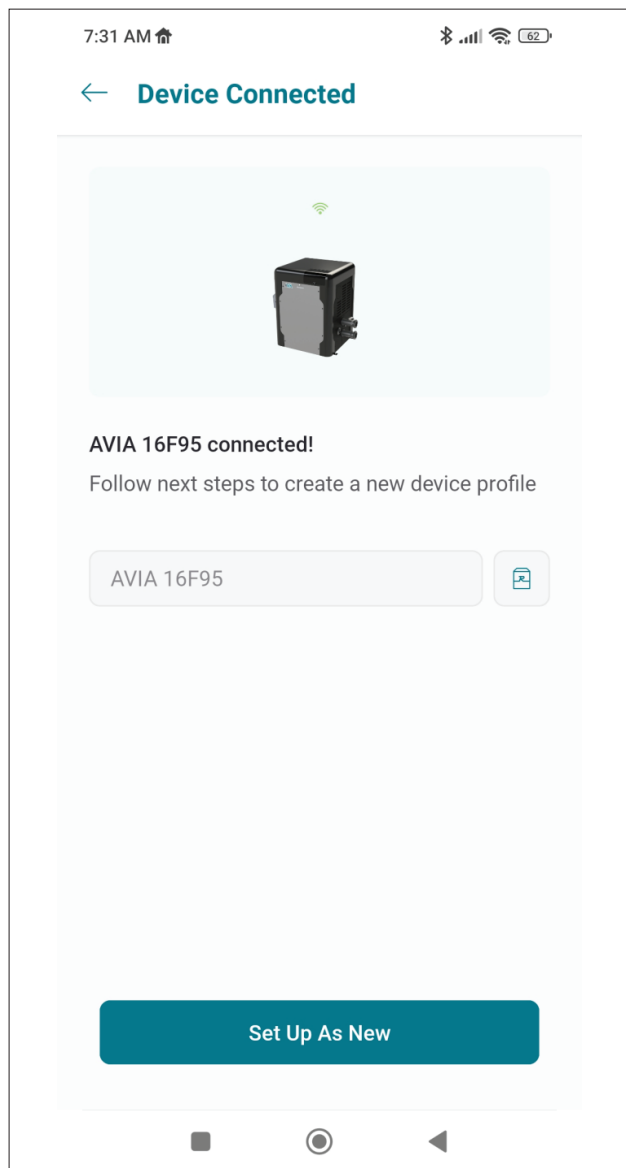

Figure 96. Name Your Unit
1. Your device is now connected to Wi-Fi. You can change the name of your device here. See **Figure 96**.